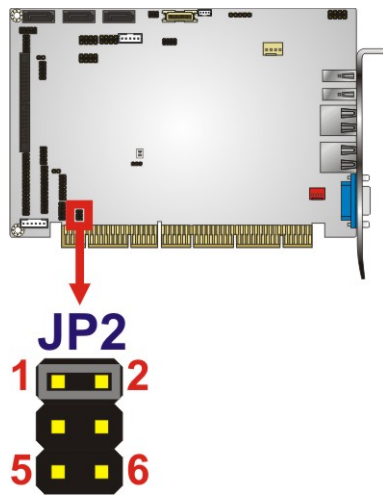

Figure 4-5: COM 2 Function Select Jumper Location
- Jumper Location:** See **Figure 4-5**
The COM 2 Function Select jumper location is shown in **Figure 4-5**.